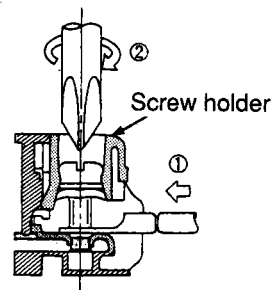

Fig. 1
1. Press the wire and Y-type crimp terminal into the terminal. (Fig. 1)